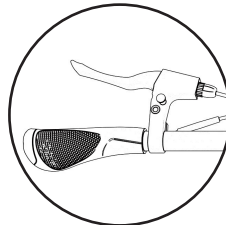
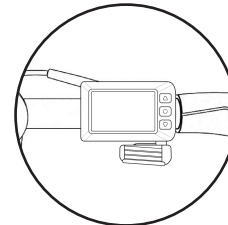

FIG. 1 - HAND BRAKE LEVER
FIG. 2 - THROTTLE
2. The Hand brake lever and throttle (**Fig 1** and **Fig 2**) are adjusted downward for shipping. Adjust the throttle and hand brake lever to your desired location, then tighten the screws using the included Allen wrenches.